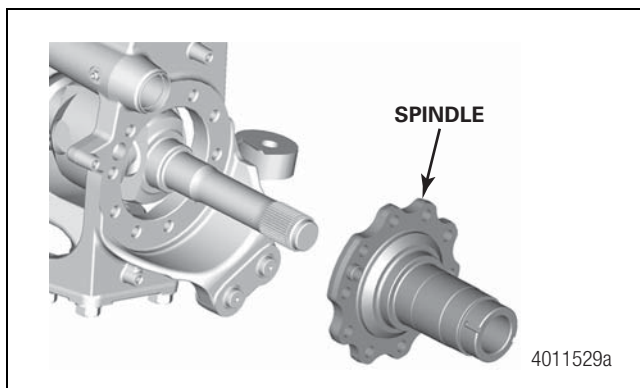

**Figure 4.22**
- If the vehicle is equipped with ABS: Push the ABS sensor into the steering knuckle cavity. Figure 4.22.